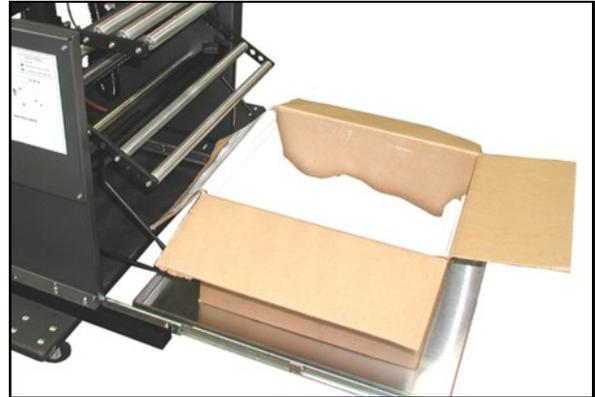

Figure 2-4C. Box on Tray
3. Slide the box tray out from unwind and place the box of bags centered on tray. **Figure 2-4C.**